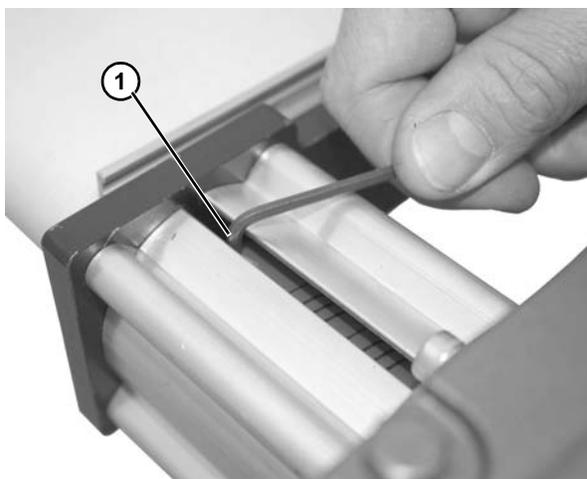

Figure 7
4. Tighten set screw on shaft coupling, access through slot (**Figure 7, item 1**).
7. Tighten second set screw, access through slot (**Figure 7, item 1**).